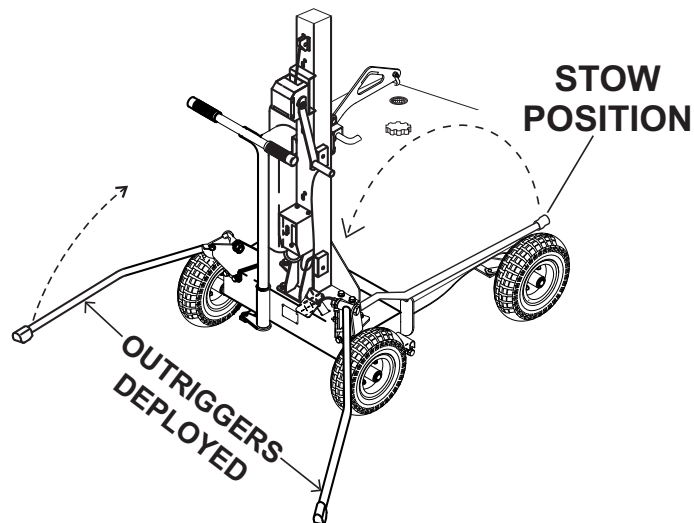

Figure 8. Outriggers (Deployed Position)
3. Lift up on each outrigger (2) from its stow position, rotate backwards and place it in the deployed position, as shown in Figure 8. The outriggers will automatically lock in place once they touch the ground,